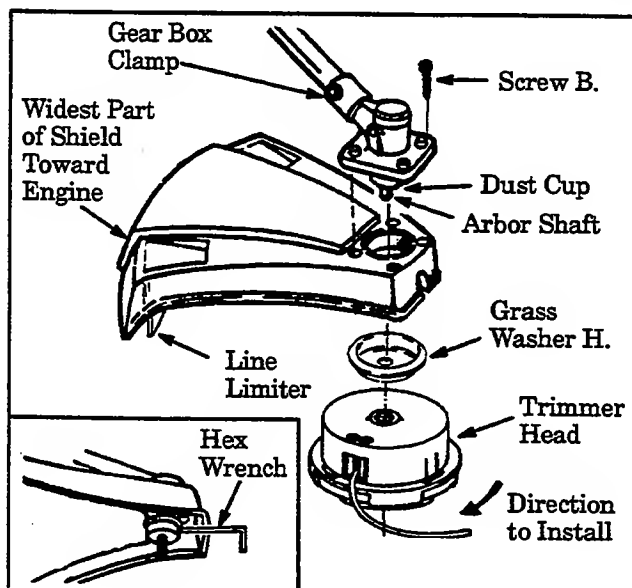

Figure 5
Failure to install the shield in the position shown in Figure 5 can result in serious injury to the operator. The length of the shield must be aligned with the length of the tube. Direct the widest part of the shield toward the engine.
- Place the shield under the gear box and insert four screws "B." through the gear box into the shield. Figure 5.
- Install grass washer "H." over the arbor shaft. Make sure grass washer "H." is against and curved over the dust cup. Figure 5.
- Start threading the trimmer head onto the arbor shaft as shown in Figure 5.
- Insert the large hex wrench (provided) into the aligned holes to keep the arbor shaft from turning. Figure 5 (inset).
- Tighten the trimmer head counterclockwise against grass washer "H." and the dust cup while holding the large hex wrench. See Figure 5 (inset).